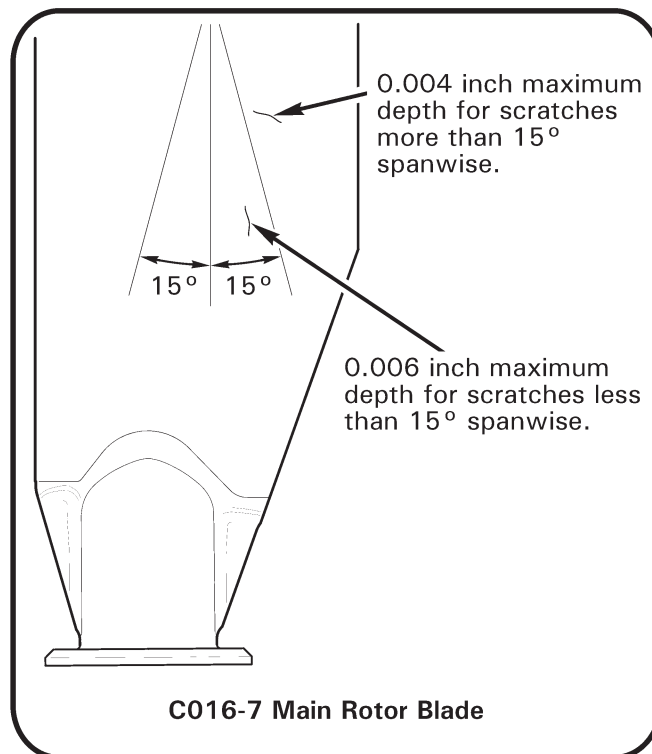

FIGURE 28-13 SCRATCH LIMITS
1. Refer to Figure 28-13. Damage may not exceed the following limits after rework: